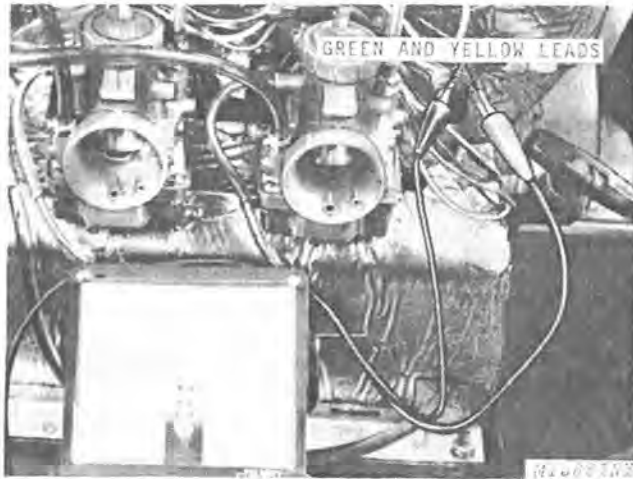

Fig. 7-Testing Stator For Continuity
2. Probe the two green and yellow leads in the engine connector. The ohmmeter should show a reading of 0.2 to 0.6 ohms, Fig. 7.